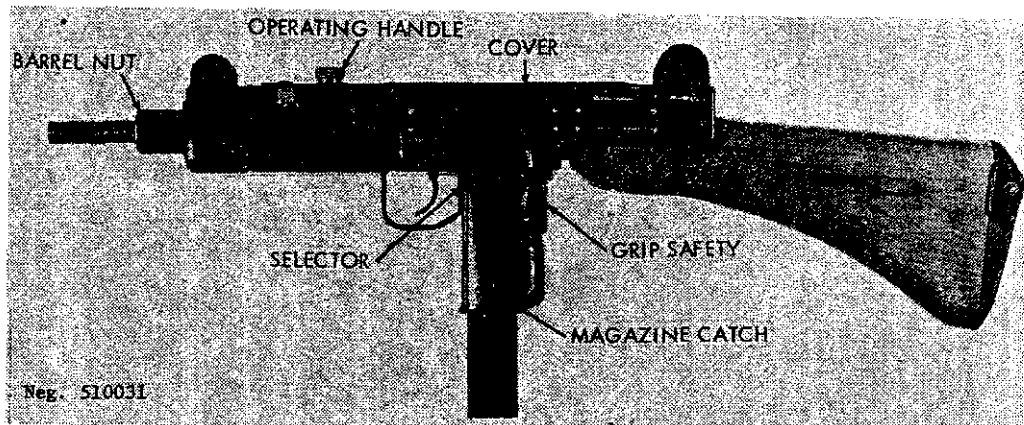
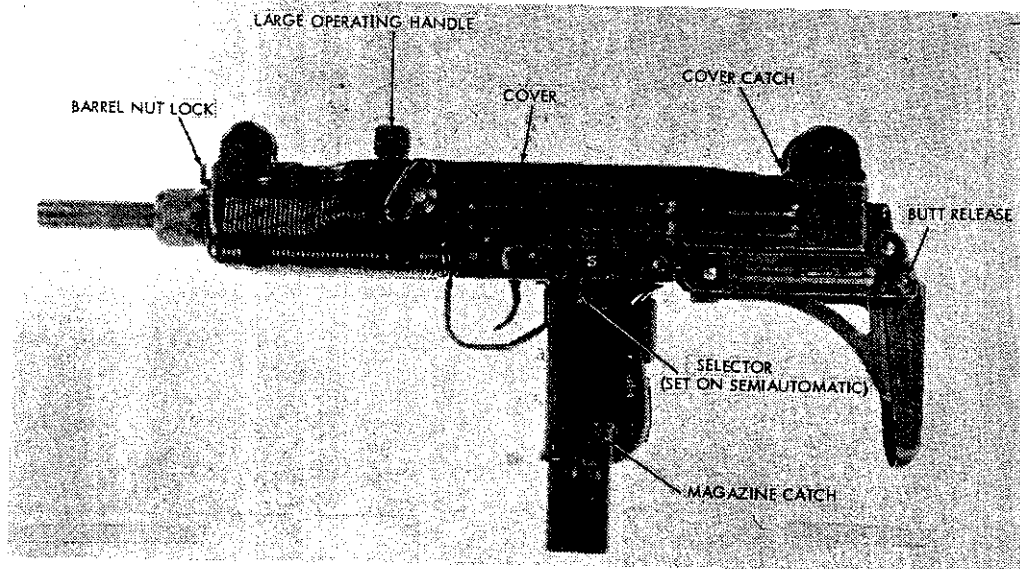
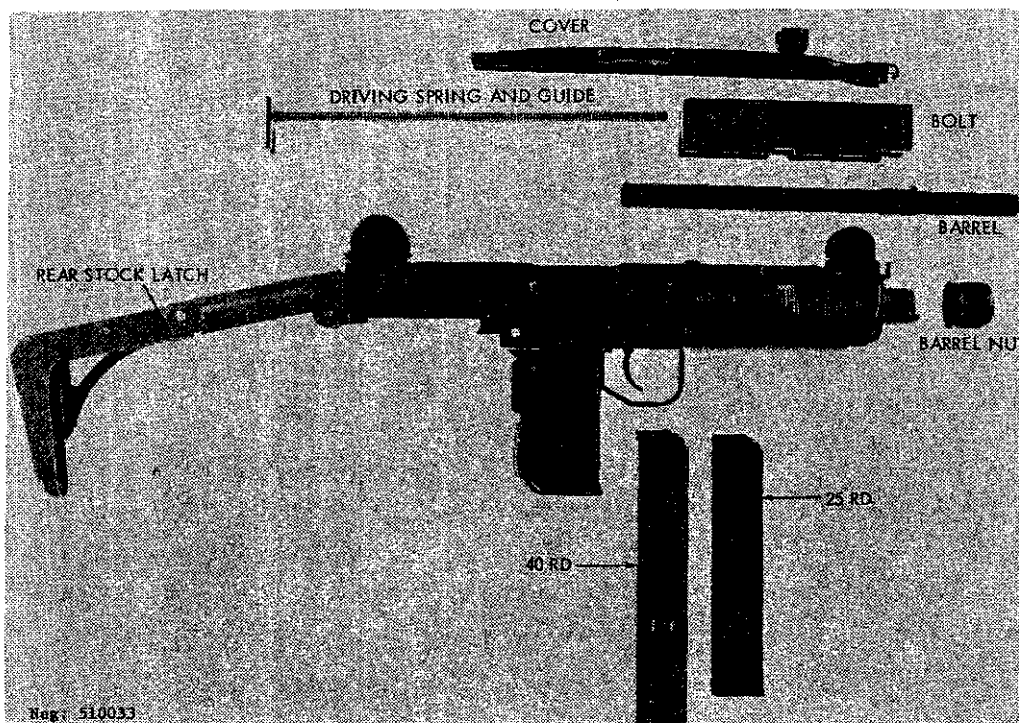

Figure 32. Israeli UZI submachinegun, early model.
Figure 33. UZI submachinegun, late model
Figure 34. UZI submachinegun, field stripped.
a. The 9-mm UZI submachinegun (fig 32 and 33) was designed by an Israeli Army officer in the early 1950's. The design appears to have been influenced by the Czechoslovak M-23 submachinegun. However, the UZI has several novel features for a submachinegun, including a bayonet and a spigot-type grenade launcher. The UZI is a simple gun to manufacture, using a maximum amount of stamped metal parts, and is considered to be an extremely reliable weapon.
c. Like most submachineguns, the UZI fires from an open bolt and can be fired either automatically or semiautomatically. It is fed by 25- or 40-round-capacity box magazines inserted into the pistol grip. Although the UZI is usually equipped with a folding metal butt (fig 33), a wood butt (fig 32), in at least two different lengths, is also used.
b. If the gun is a folding stock model, press the butt release (fig 33), pull down on the butt plate, and unfold the butt. To fold the butt, squeeze the rear half together, just to the rear of the joint, and fold the stock down and forward, insuring that it locks to the receiver.
c. Insert the magazine into the bottom of the butt until the magazine catch snaps into place. After pressing the grip safety (fig 32), pull the operating handle fully to the rear and release it. **CAUTION:** The UZI is now loaded and ready to fire. If the gun is not to be immediately fired, slide the selector (fig 32) fully rearward to the "safe" position.
e. Remove the magazine by pressing the magazine catch (fig 32 or 33) and pulling the magazine out of the gun.
b. Press in the cover catch (fig 33) and lift the cover (fig 33) from the receiver. Pull the bolt slightly rearward; then swing its front end up and out of the receiver. Separate the bolt and driving spring from the receiver and then from each other.
c. Press in the barrel nut lock (fig 33) and unscrew the barrel nut; pull the barrel (fig 34) forward and out of the receiver.
e. Insert the front of the cover (fig 34) under the front sight and press the rear end of the cover down until the cover snaps into place. Reinsert the magazine.